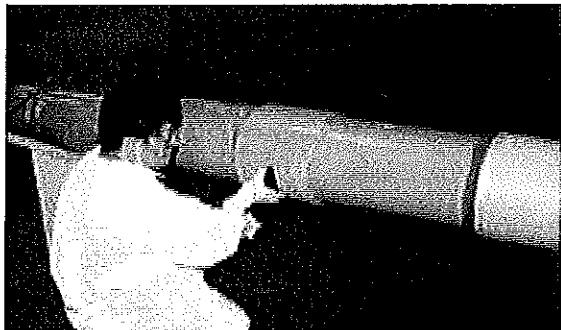

Figure 15
- 4.14 Prepare to tighten the Clock Spring® sleeve by centering the dual lock pad 6 – 12-inches (152 – 305 mm) from the trailing edge of the Clock Spring® (Figure 15).